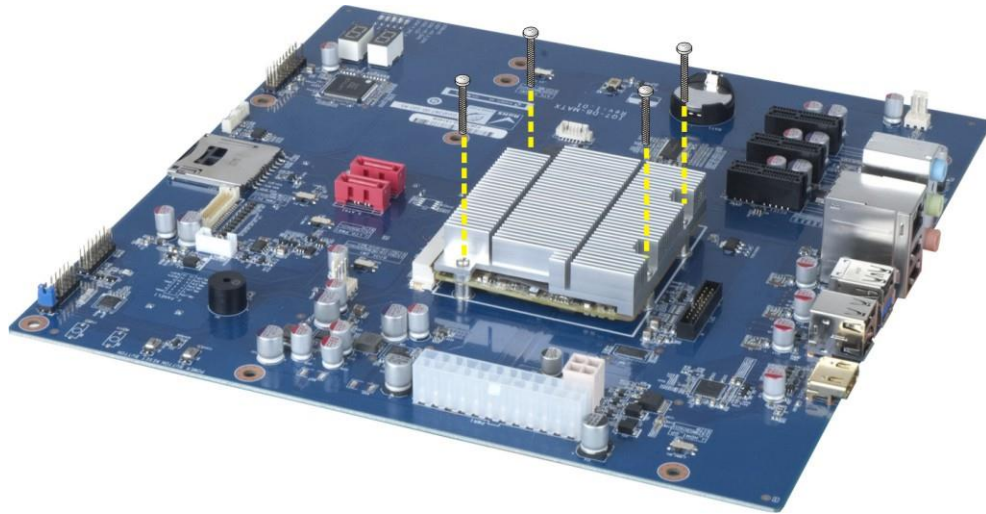

Figure 3-4: Secure the Heatsink
- Step 4:** Secure the heatsink to the iQ7-ASL and the baseboard with the supplied retention screws (**Figure 3-4**).